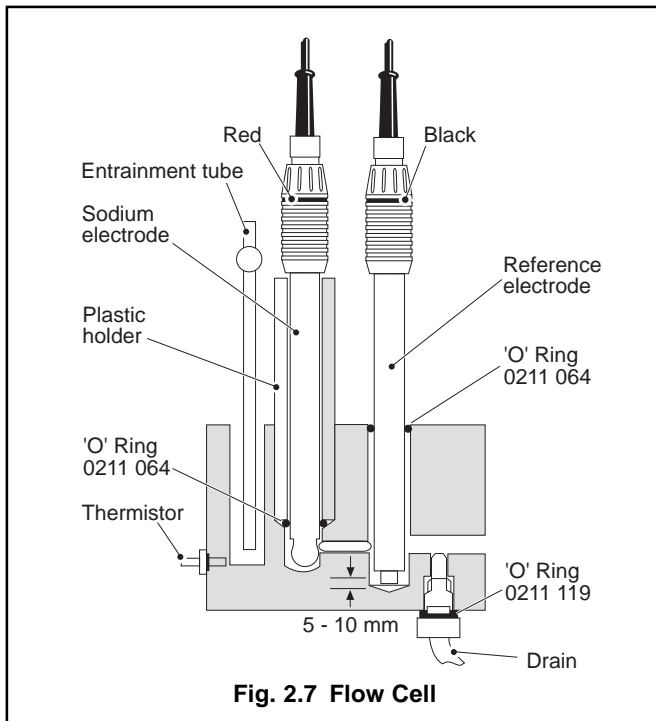
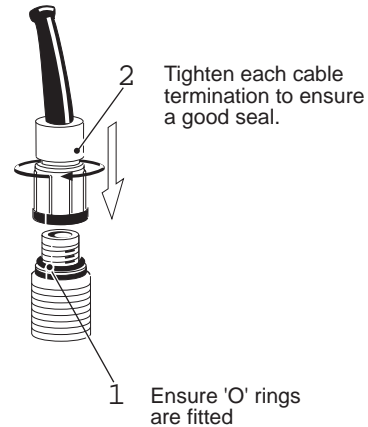

Fig. 2.7 Flow Cell
Fig. 2.8 Electrode Connections
2.6 Start-Up (Figs. 2.7, 2.8 and 3.5)
- g) Unpack the sodium electrode and carefully remove the rubber teat. Connect the electrode to the red connector (see Fig. 2.8) and then slide the electrode into the cylindrical plastic holder supplied – see Fig. 2.7. Locate the 'O' ring (which is packed in the central chamber of the flow cell) and carefully position it on the stem of the electrode just above the bulb. Carefully screw the holder into the
- h) Unpack the reference electrode and remove the rubber teat. Connect the electrode to the black connector (see Fig. 2.8) and release the black rubber filling hole plug. Fit the 'O' ring supplied over the electrode body and position the electrode centrally in the right-hand chamber of the flow-cell so that the ceramic plug is between 5 and 10mm from